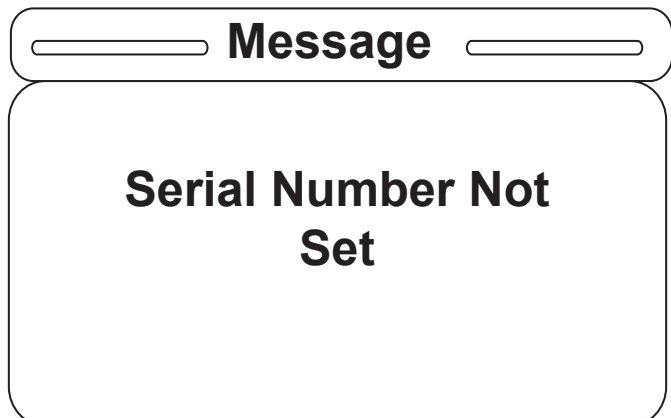

Figure S-24
24. If the Current SN item is selected and no serial number has been entered by the user, the screen in Figure S-24 will be displayed.